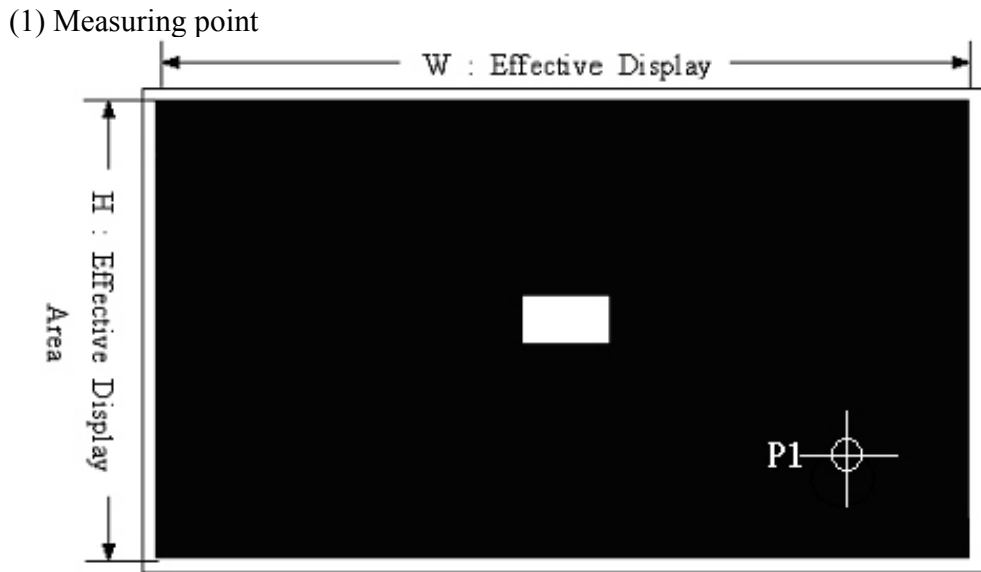

Figure-4. Measurement point
*1. Contrast Ratio is calculated from the display Luminance and the non-display Luminance value. Display condition is shown in Figure-4.